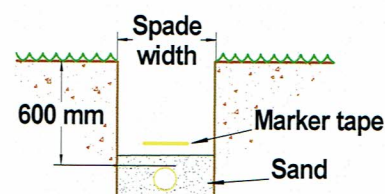

Fig 15
- 600mm within a private property and under tarmac or grass footpaths, where there is no likelihood of heavy traffic (Fig 15).